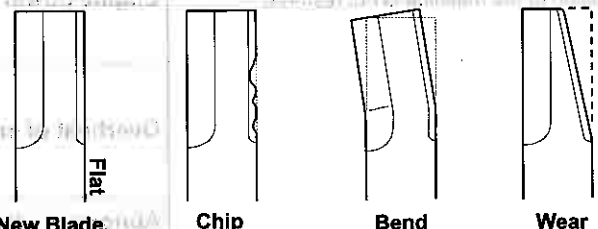
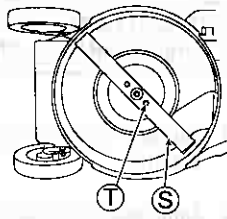

Fig. 34.
Fig. 35.
- 1 Confirm that there is no chip, bend, or wear with Blade (S). (See Fig. 34.)
- 2 If Blade (S) or its mounting bolts (T) are "worn", "broken" or "deformed", exchange with new one(s) specified by us.
- 3 Confirm that Blade mounting bolts (T) are tightened by the specified torque. (See Fig. 35.)
- 2 Fully tighten Blade mounting bolts (T) with hand.
- 4 Confirm that Blade mounting bolts (T) are tightened by the specified torque. (See Fig. 35.)